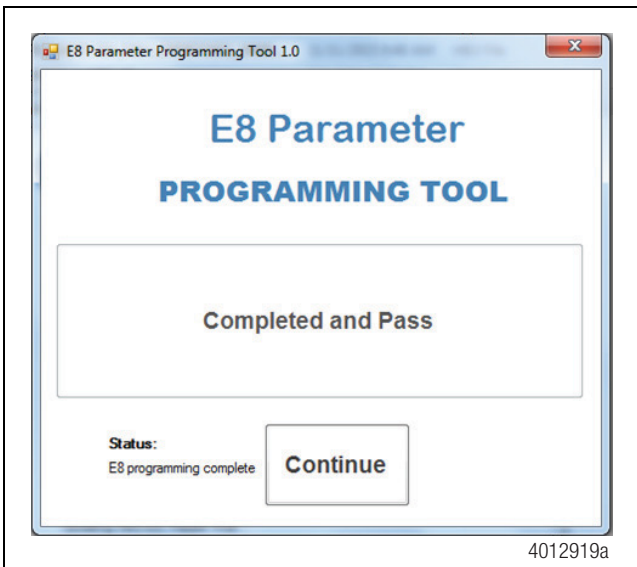

Figure 9
- A. If the vehicle has an E8 ABS ECU, the E8 update will begin automatically. When the E8 update is finished, the following screen will be displayed. Select "Continue" to finish updating the radar. Figure 9.